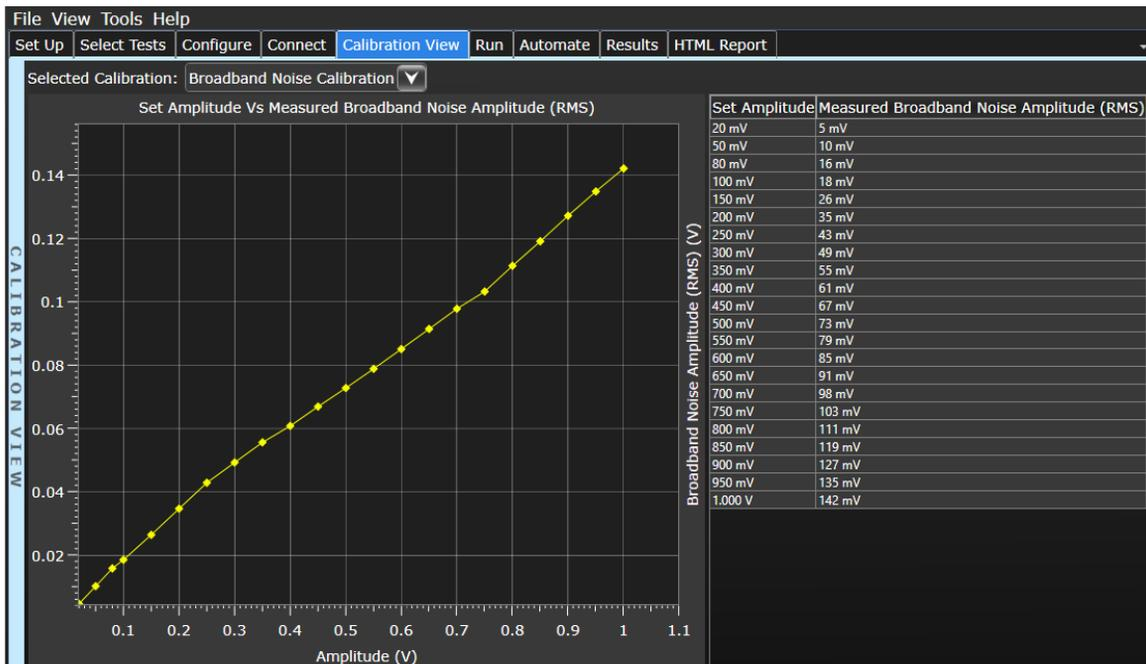

Figure 47 Broadband Noise Calibration calibrated data in Calibration View tab
- Measured Broadband Noise Amplitude (RMS) versus Set Amplitude in graphical and tabular formats in the Calibration View tab (Figure 47)